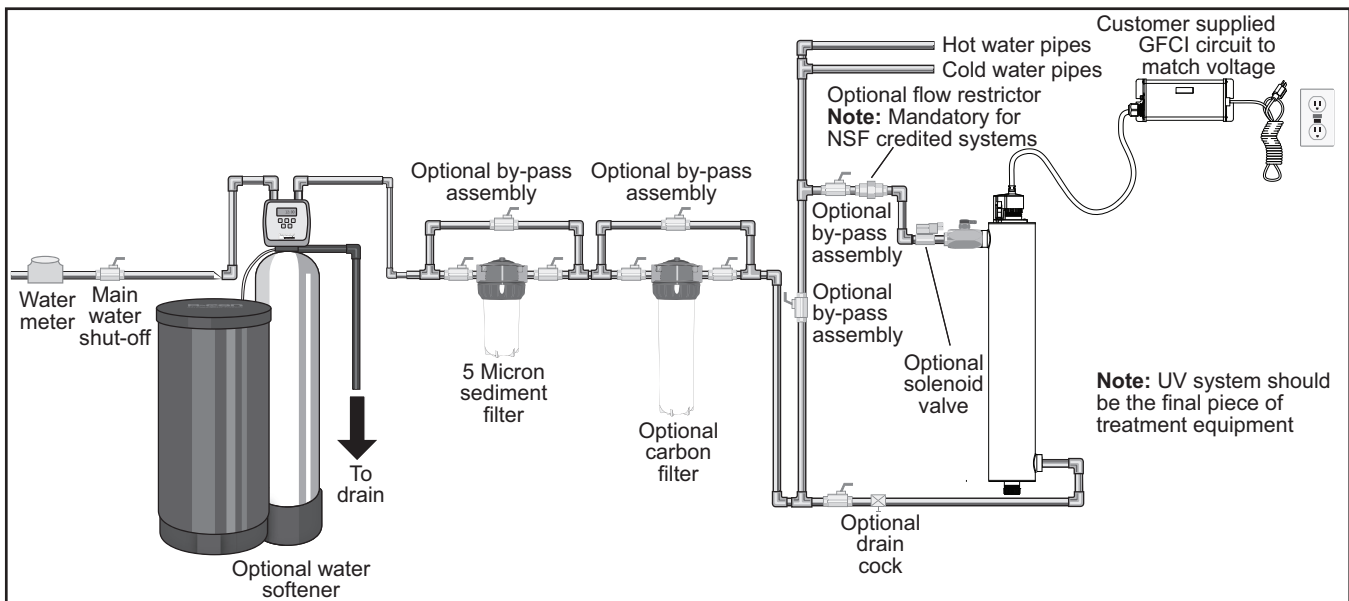

Figure 3 UV Treatment System
1. Figure 3 shows the installation of a typical UV system and the related components that may be used for the installation. The use of a by-pass assembly is recommended in case the system requires “off-line” maintenance. In this case, it requires a supplementary disinfectant for the distribution system if any water is used during by-pass condition. In addition, during by-pass, the water will NOT be treated and a “DO NOT CONSUME THE WATER” tag should be physically installed on the by-pass assembly until such time as the system is sanitized and returned to service. For more information, refer to Section 3.2. If the water is to be consumed while the system is off-line, the water must be boiled for twenty minutes prior to consumption.